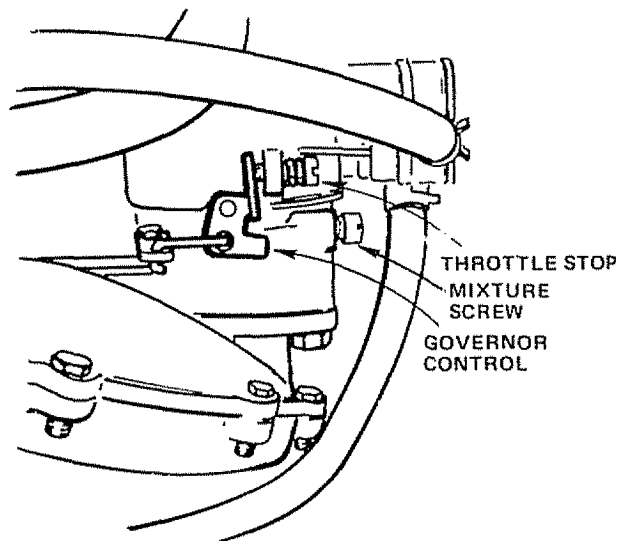

FIGURE 38
- Turn Mixture Screw clockwise (↻) closing finger tight ONLY, and then turn counterclockwise (↺) 1 - 1/2 turns (Fig. 38). CAUTION: VALVE MAY BE DAMAGED IF TURNED IN TOO FAR.
- Hold Governor Control against Throttle Stop. Turn Mixture Screw clockwise (↻) until engine just starts to slow (Fig. 38).